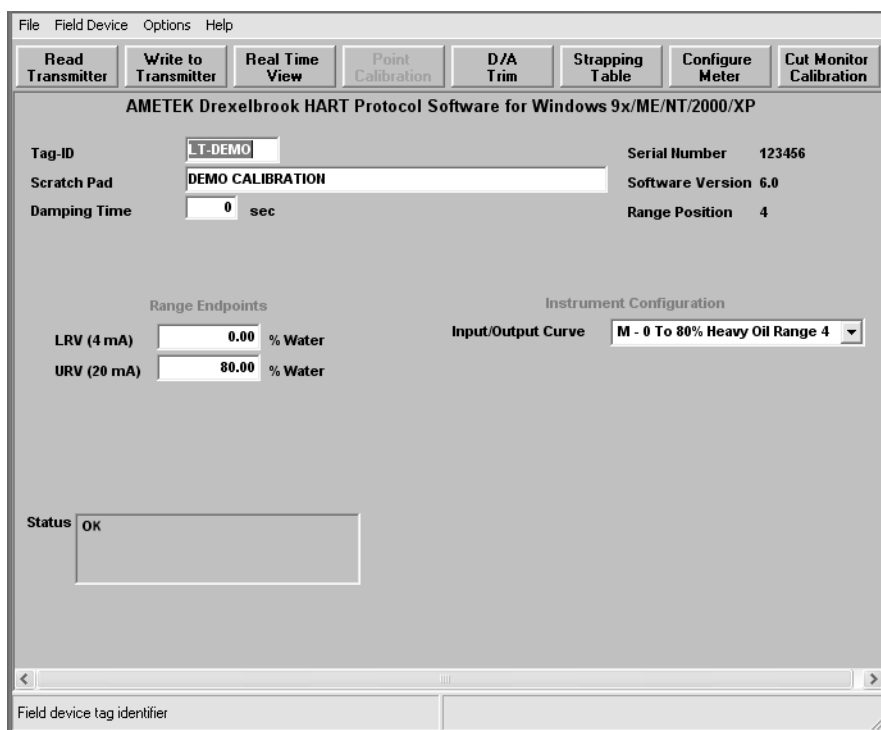

Figure 3-3
- G. The next view, shown in **Figure 3-3**, appears automatically, displaying current transmitter database for calibration set-up for your selected Tag ID. The Scratch Pad will automatically show the last message (last user, last calibration, etc.) up to 32 characters. If this is a new transmitter, the Tag ID is user-defined. Serial number, transmitter software version, range, etc. is automatically entered from the "name plate data" embedded in the transmitter: